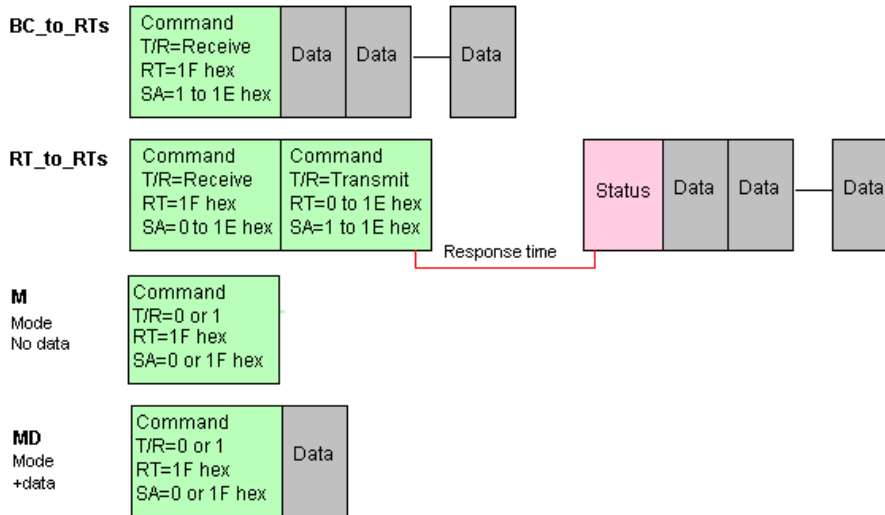

Figure 3-4: The 10 MIL-STD-1553 message types
- Two consecutive non-data words must be commands (see RT-to-RT(s) in Figure 3-4 on page 16).